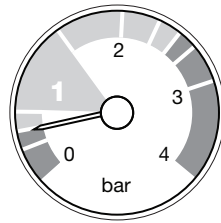

Fig. 2
4. The minimum pressure for correct operation is 0.5. If the pressure falls below 0.5, this may indicate a leak on the central heating system (Fig. 2). Error Code E119 will be shown on the display.